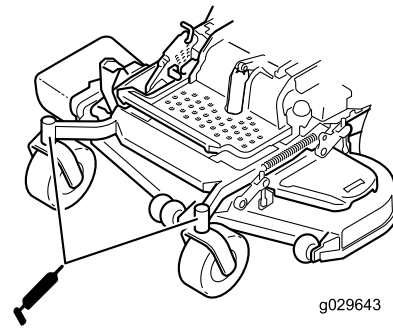

Figure 47
10. Install the hex plug and dust cap (Figure 47).